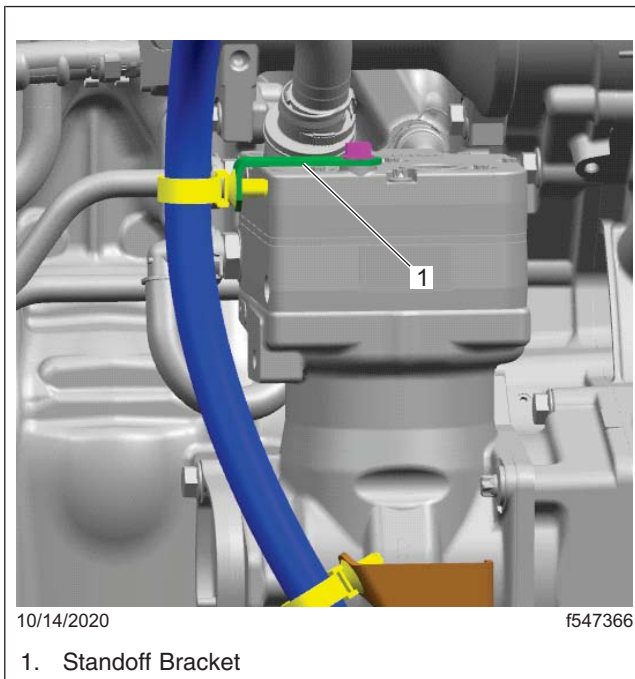

Fig. 16, Existing Standoff Bracket
- 2.1 Remove the existing standoff bracket bolted to the top of air compressor. See **Fig. 16**.